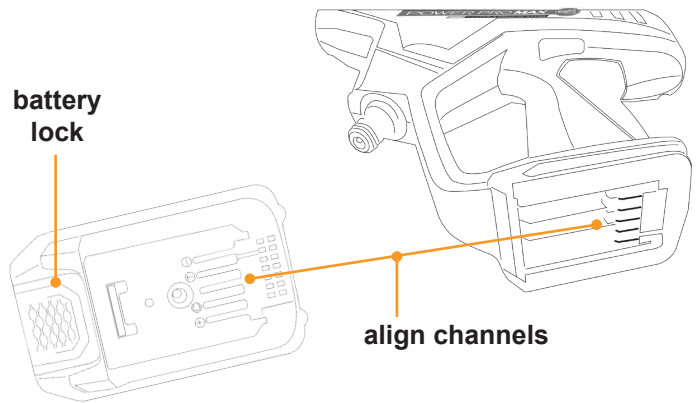

Fig.11
1. Align handle assembly with the channels on the battery pack (Fig.11).
2. Slide battery pack into base of the handle assembly until battery pack is securely attached to the main handle assembly. Battery lock (Fig.11) will engage when the battery pack is correctly attached to handle assembly.
7. Remove battery pack from handle assembly by pressing the battery lock button (Fig.11) down, then slide the battery out from the base of the handle assembly.
NOTE: The 2.6 Ah MAX Li-ion battery pack has a single-button, latch release mechanism—located on the top, front side of the battery, just above the Power Test panel (Fig.11).